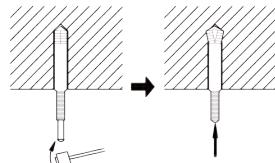

Fig4.5
- (3) Insert the anchor bolts into the drilled holes, and drive the pins completely into the anchor bolts with a hammer. (Fig. 4.5)